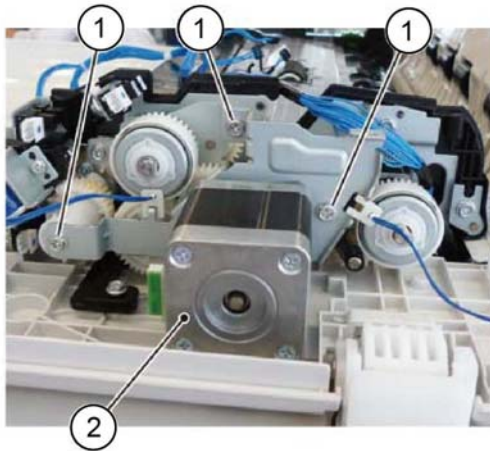

Figure 1 Feed motor assembly removal
5. Remove the DADF feed motor assembly, Figure 1:
- a. Remove three screws (1).
- b. Remove the DADF feed motor assembly (2).